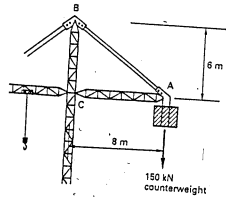

Fig 4
- i) Fig. 4 shows part of a tower crane where the counter weight is supported by an inclined tie as shown. The characteristic dead load weight of the counter weight is 150kN. Ignore the self weight of the crane structure and any other loads that may be acting.